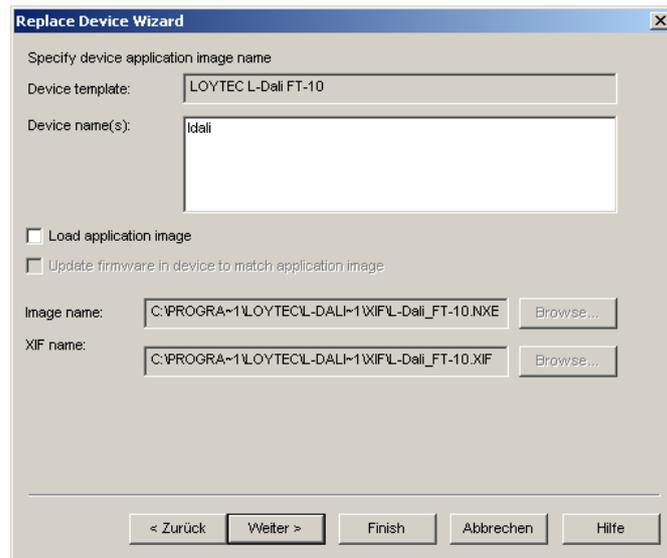

Figure 93: Click Next without loading an application image.
4. In the following window shown in Figure 93 click **Next**.